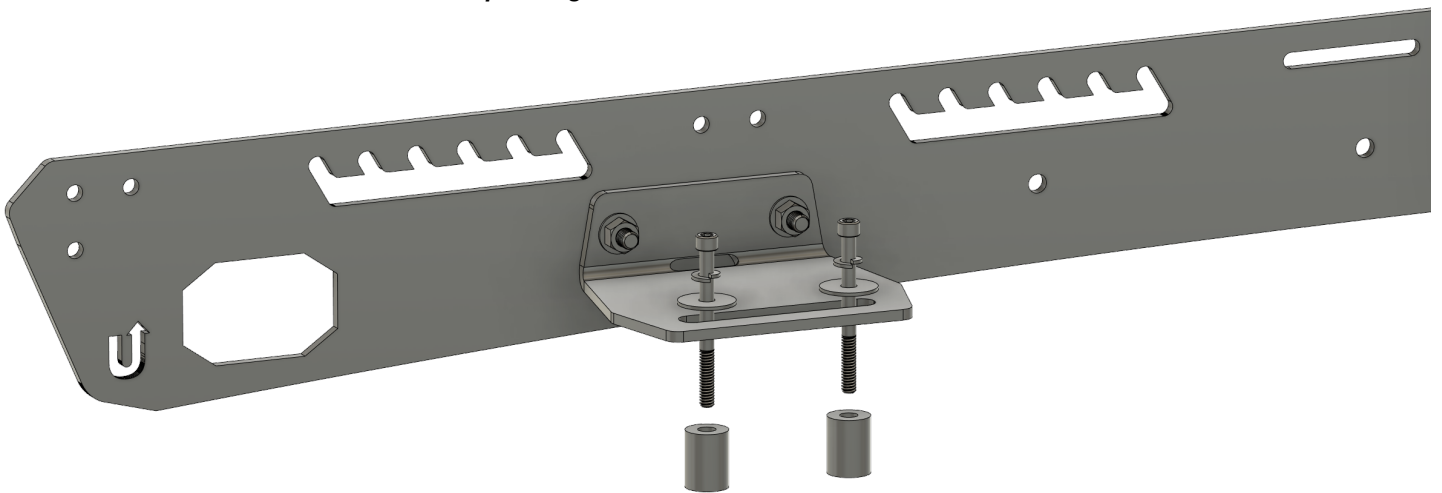

Figure 16
- Insert each hardware combination to match the order of assembly in Figure 16. Hand tighten with a 5mm Allen wrench, **DO NOT FULLY TIGHTEN** the hardware. Leave it loose to allow for adjustment. **REPEAT THE PROCESS** for the passenger side REAR foot.